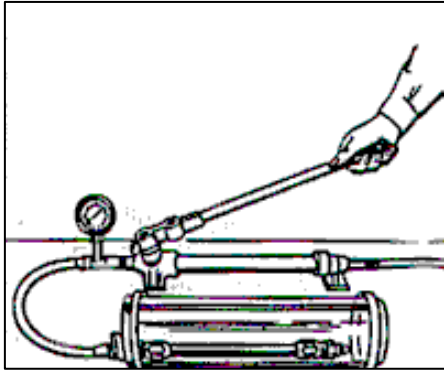

Figure 8.0
**Step 7:** Apply a test pressure according to the list in this brochure. Maintain the pressure for a minimum of 1 minute to a maximum of 5 minutes. While the assembly is under test pressure, check for leaks, bubbles etc. Figure 8.0